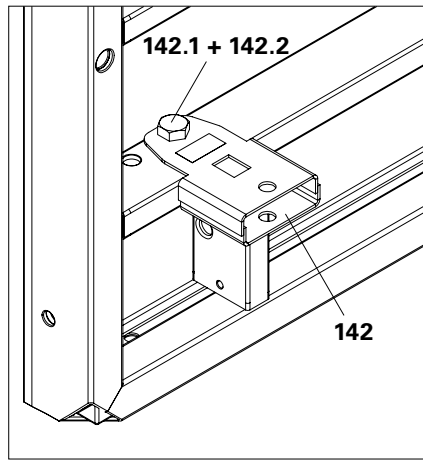

Fig. C1.04
2. Fix 2x Clamp Adapter MX / TR-SRU (**142**) to the formwork using bolts ISO 4014 M24 x 80-8.8 (**142.1**) and nuts ISO 4032 M24-8 (**142.2**). (Fig. C1.04)